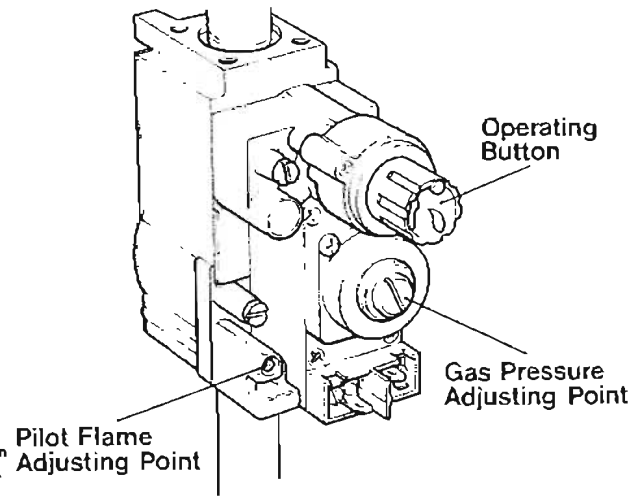

Fig. 5
- (g) Adjust pilot flame if necessary so that it just envelopes thermocouple tip. To adjust flame, identify adjustment point (see Fig. 5) and turn screw *clockwise to decrease, anti-clockwise to increase* flame.
- (i) Adjust burner bar pressure to output required (see Table Fig. 6). Heaters are factory set to a pressure giving maximum output at gas group specified. To adjust pressure, remove cover from adjustment point (see Fig. 5) and turn screw *clockwise to increase, anti-clockwise to decrease pressure*.
With main burner off reduce flame of pilot burner by turning screw clockwise at pilot flame adjusting point (see Fig. 5) until it extinguishes. After 50-90 secs. a loud click should be heard i.e. gas control has failed safe.